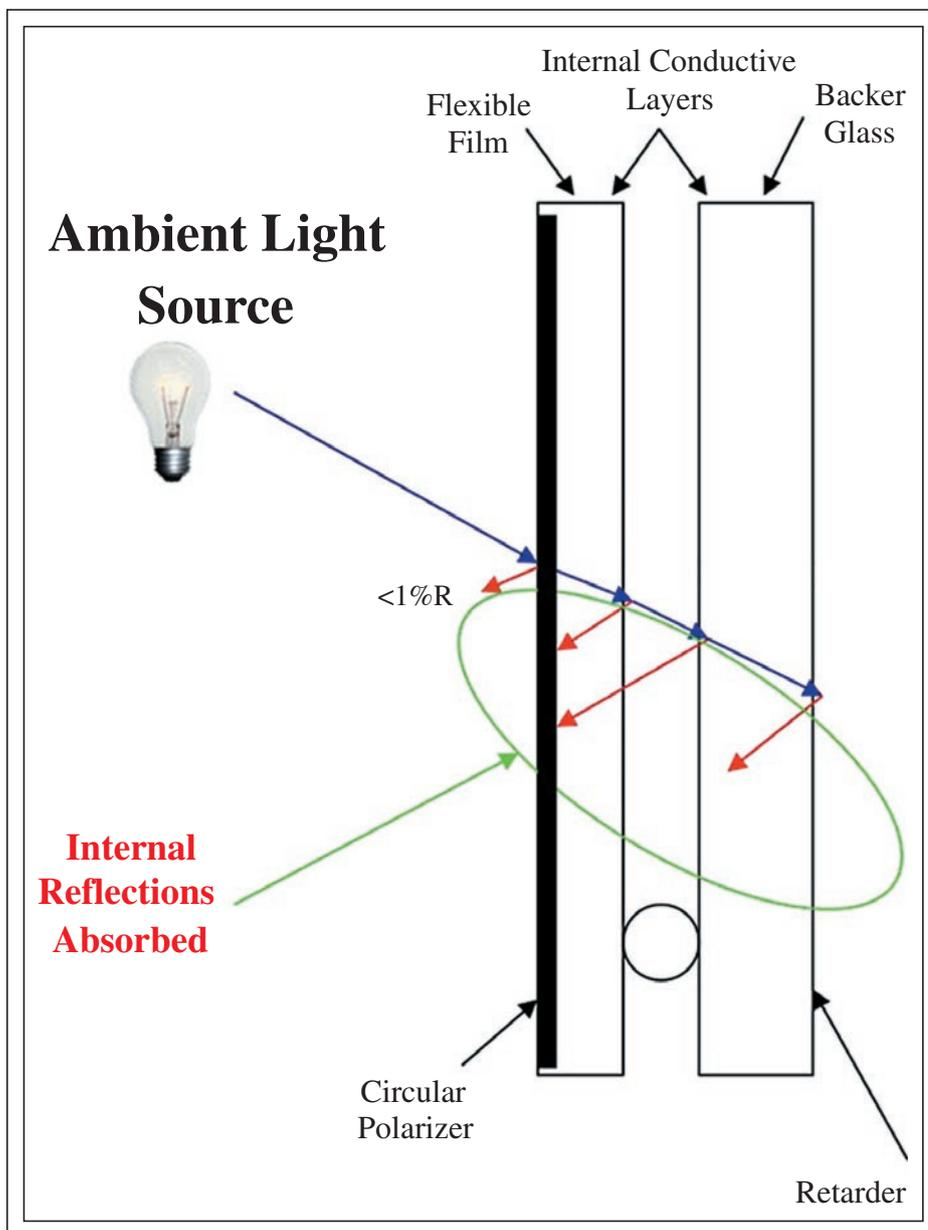

Fig. 3: Polarized construction details show where internal reflections are absorbed.
As shown in Fig. 3, internal reflections, coupled with ambient light reflected from the front surface of the display or rear surface of the touch screen, will reduce contrast and viewability. To address this issue, a circular polarizer (CP) can be integrated into the front surface membrane of the resistive touch screen to suppress internal reflections. The CP is a linear polarizer combined with a quarter-wave retarder. Unpolarized ambient light entering the display from the outside first passes through a linear polarizer (the first layer of the circular polarizer). When the light, now linearly polarized, passes through the quarter-wave retarder, it is separated into two equal components that are one quarter wavelength out of phase with one another (*i.e.*, the phase relationship is such that the leading component is one quarter wavelength ahead of the lagging component). When this